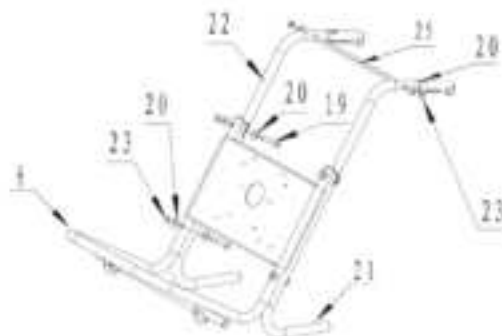

Fig.2
washers (20) and nuts (23). (Fig.2)